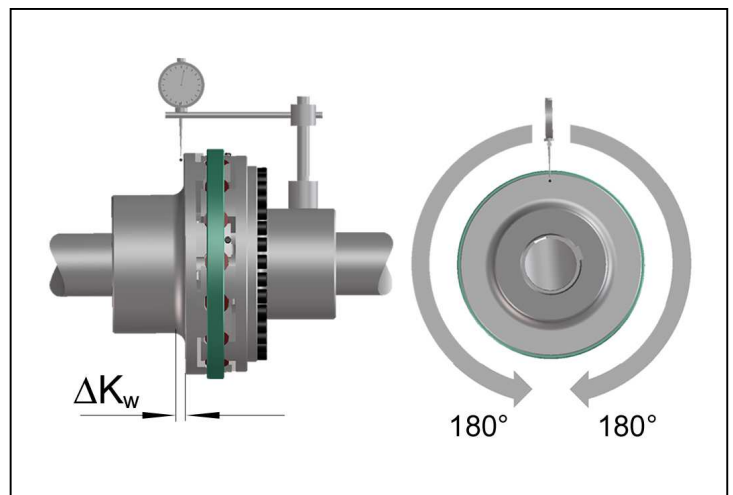

Fig. 7
- Measure one complete rotation (360°) on the face of the outer diameter. Determine the largest deviation K_{w1} and the smallest deviation K_{w2} (Fig. 7).